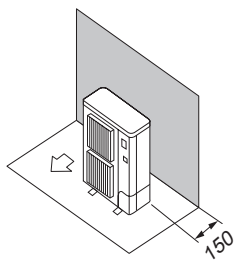

Fig. 4-6
- Obstacles at rear only (Fig. 4-6)